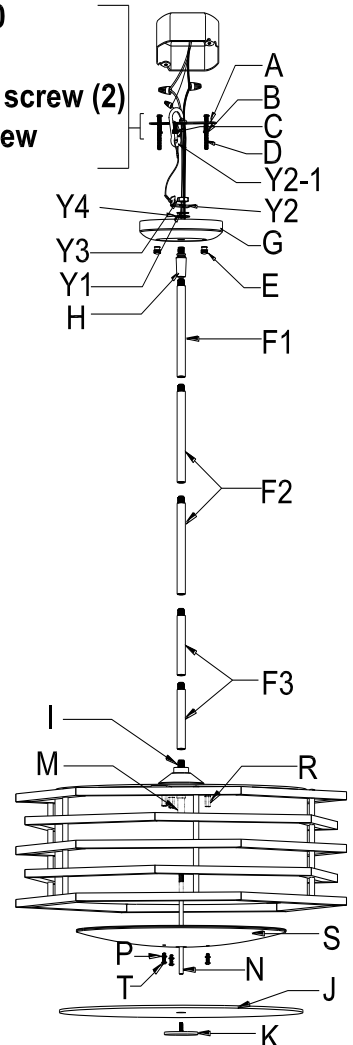

Fig.3
CONNECTING THE WIRES (Fig. 3)
- 7 Connect the electrical wire as shown in figure 3, making sure that all wire connectors are secured. If your outlet has a ground wire (green or bare copper), connect the ground wire from the hanger ball and mounting plate to it. Otherwise connect fixture ground wire directly to the crossbar using the green screw (C) provided. Tuck the wire connections neatly into the ceiling junction box as you hold the canopy towards the ceiling.